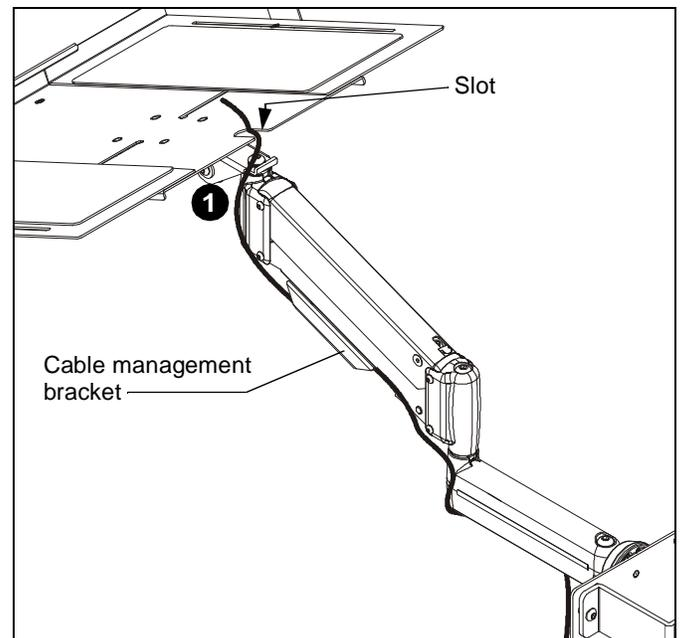

Figure 7
- Thread laptop cable through slot along the back edge of laptop tray and down along the side of the height-adjust arm to the cable management bracket. (See Figure 7)